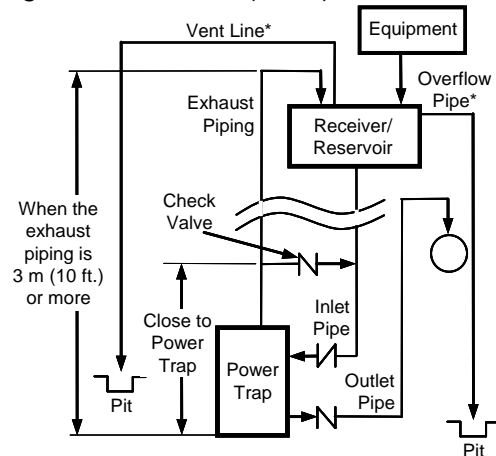

Figure 2: Open & Closed Systems
- (b) **For Open and Closed Systems:** Add piping connecting the exhaust pipe to the pumped medium inlet pipe between the reservoir and the strainer, being sure to install a check valve on the piping to prevent backflow of condensate from the pumped medium inlet pipe to the exhaust pipe. (Figure 2)